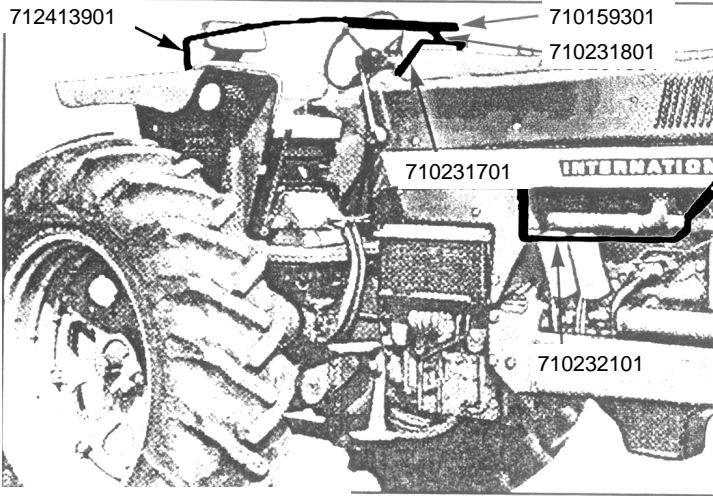

Figure 1
1. Attach # 710231701 Saddle to existing holes in tractor cowl using 1/4x3/4" hex bolts. Holes in Saddle are off center to clear light if tractor is equipped. See Figure 1 & 2